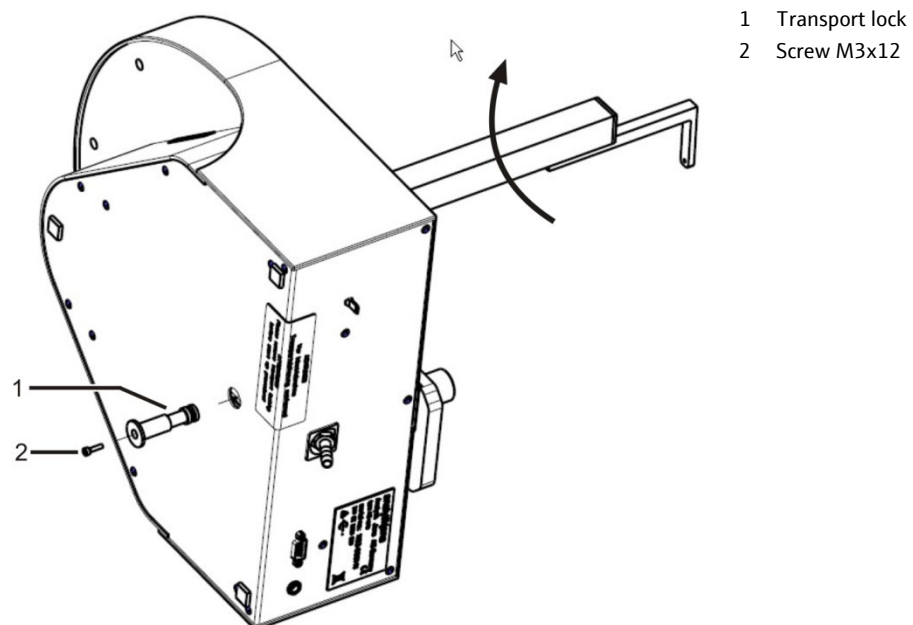

Fig. 59 Transport lock on autosampler AS vario (ER)
1. Place the autosampler on the side as shown in Fig. 59.
4. Bolt the screw (2 in Fig. 59) with the Allen wrench.